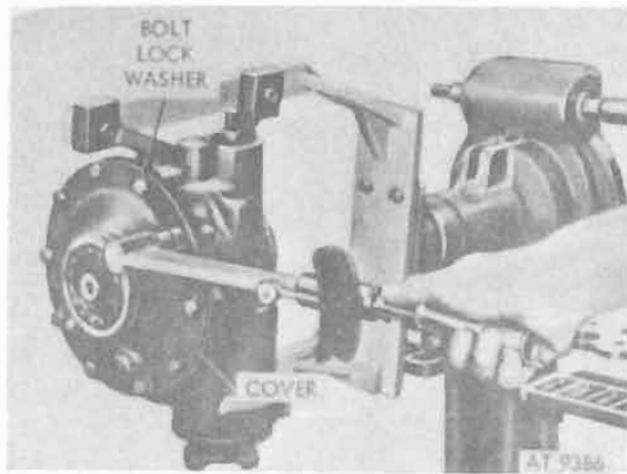

Figure 12-76. Torquing housing cover bolts.
c. Torque housing cover bolts to 25 lb.-ft. (fig. 12-76.)